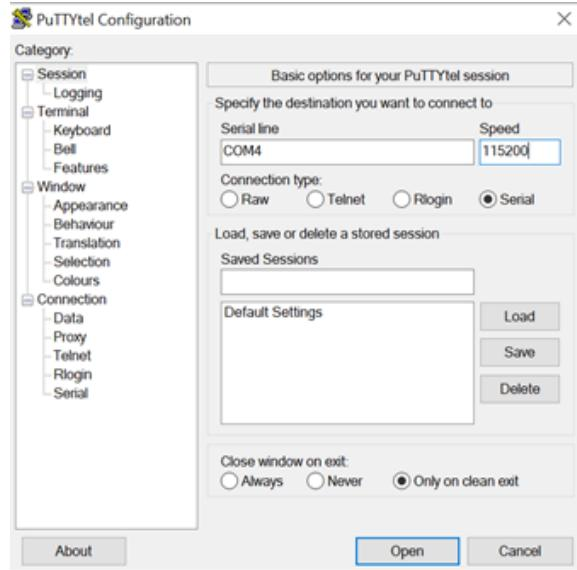

Figure 16: Puttytel console screen with the options for accessing the SSR-LC data logger shell
3. Open Puttytel and select the options as follows: Serial Line → COMXX, Speed → 115200 baud, Connection type → Serial. Note: the COM port will vary, to find on a windows machine go to the device manager to determine the port number. These options are shown in Figure 16.